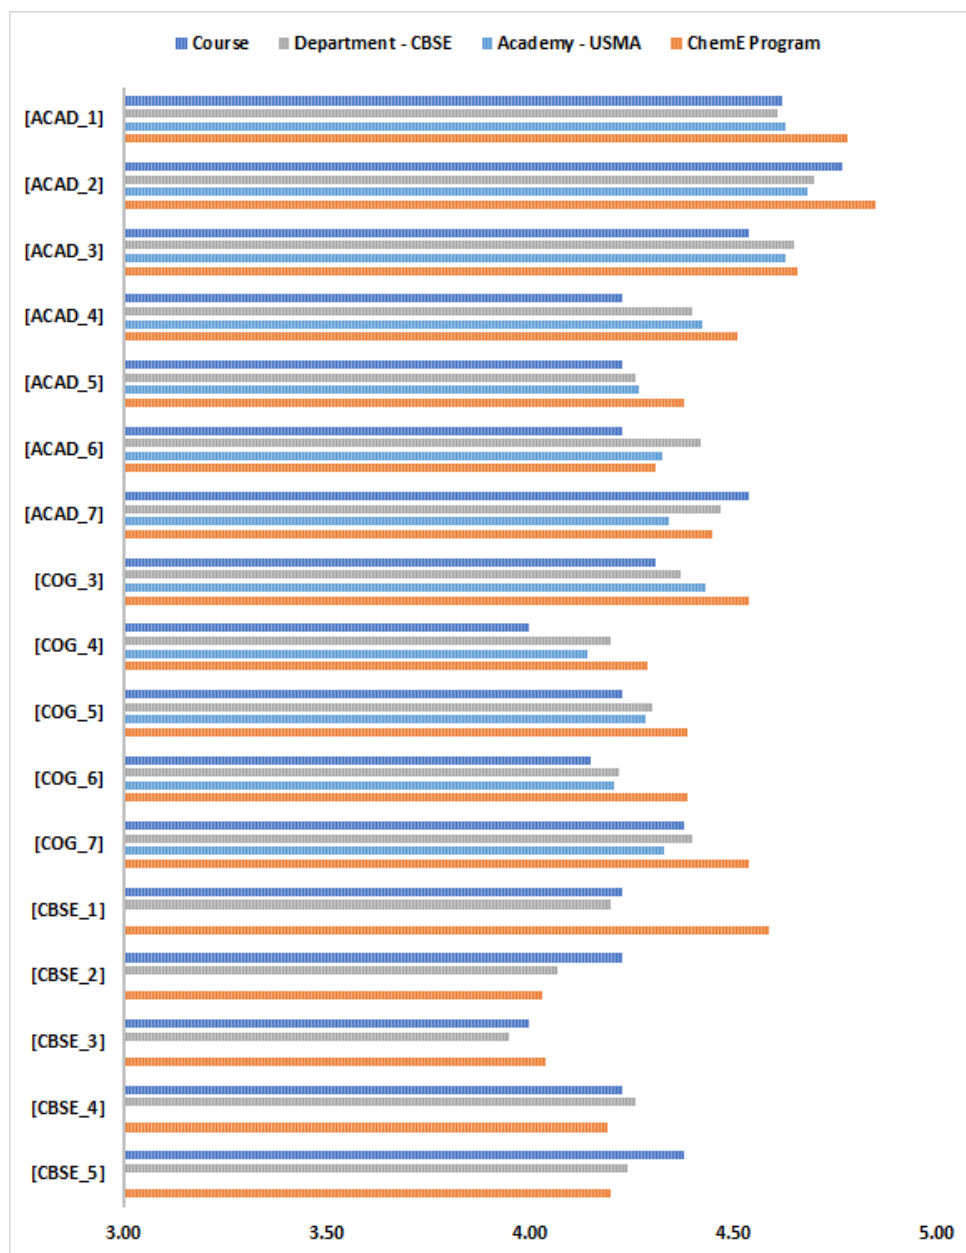
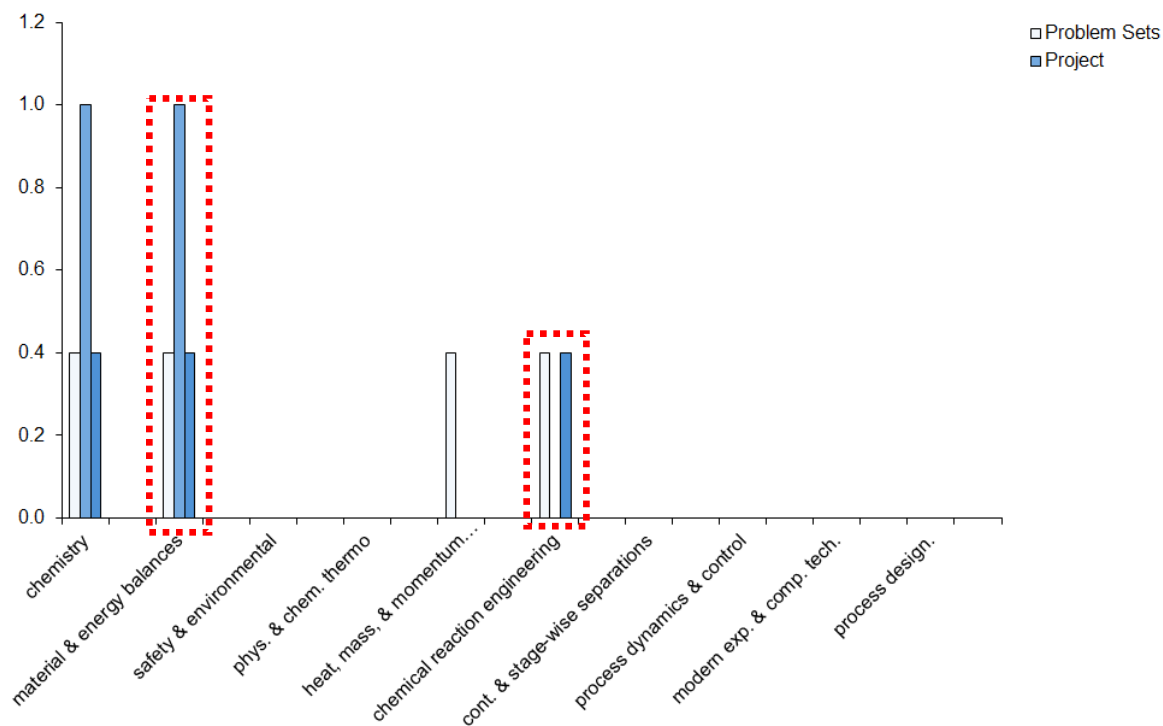

Figure 3. Roll-up of the CoursEval survey assessment results.
Figure 4. Student Curriculum Outcomes Coverage by Graded Event.
8.a. Coverage. Contribution to student objectives was assessed using the same method as described in Section II.3. Figure 4 shows coverage of student curriculum outcomes. The spreadsheet containing the data for this analysis is attached to the end of this report, in the section labeled "Section II - Attachment 2 – Assessment Worksheet." The items marked with **red dashed boxes** in Figures 3 designate student directives from Section I.8.